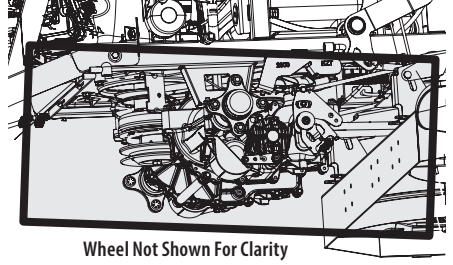

Figure 31
- Clean around and near the transmission, axle, and the fan area (Figure 31).